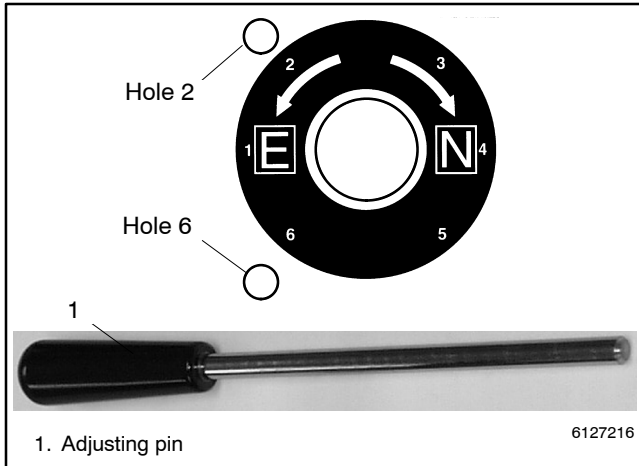

Figure 9-7 Pin Weight to Frame (see Step 5)
- See Figure 9-7. Pin the weight to prevent mechanism from moving. Fully insert the adjusting pin through the frame and into the weight. Only one of the holes lines up with the hole in the weight. If you are replacing the upper contacts, use the hole labeled 2; if you are replacing the lower contacts, use the hole labeled 6.